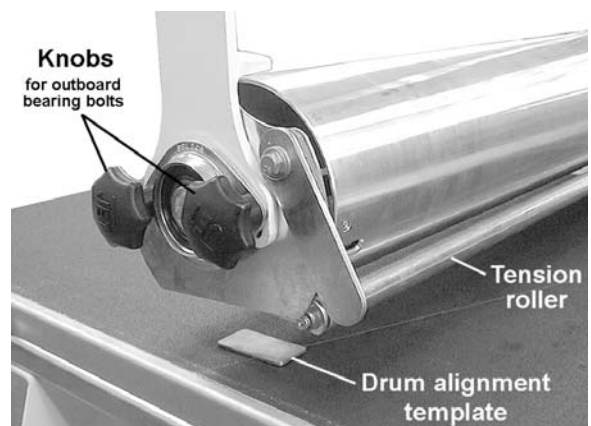

Figure 22
3. Because the tension roller suspension assembly (Figure 22) mounts to the drum bearing bolts which are used to adjust the drum, it is necessary to align the sanding drum and tension rollers at the same time. Loosen outboard bearing bolt knobs (Figure 22) and the inboard bearing bolts.
4. With all four bearing bolts loosened, note that the drum will adjust about 1/2" on each end. Position drum alignment templates (Figure 22) on the conveyor and below the drum with one template at each end of the drum.